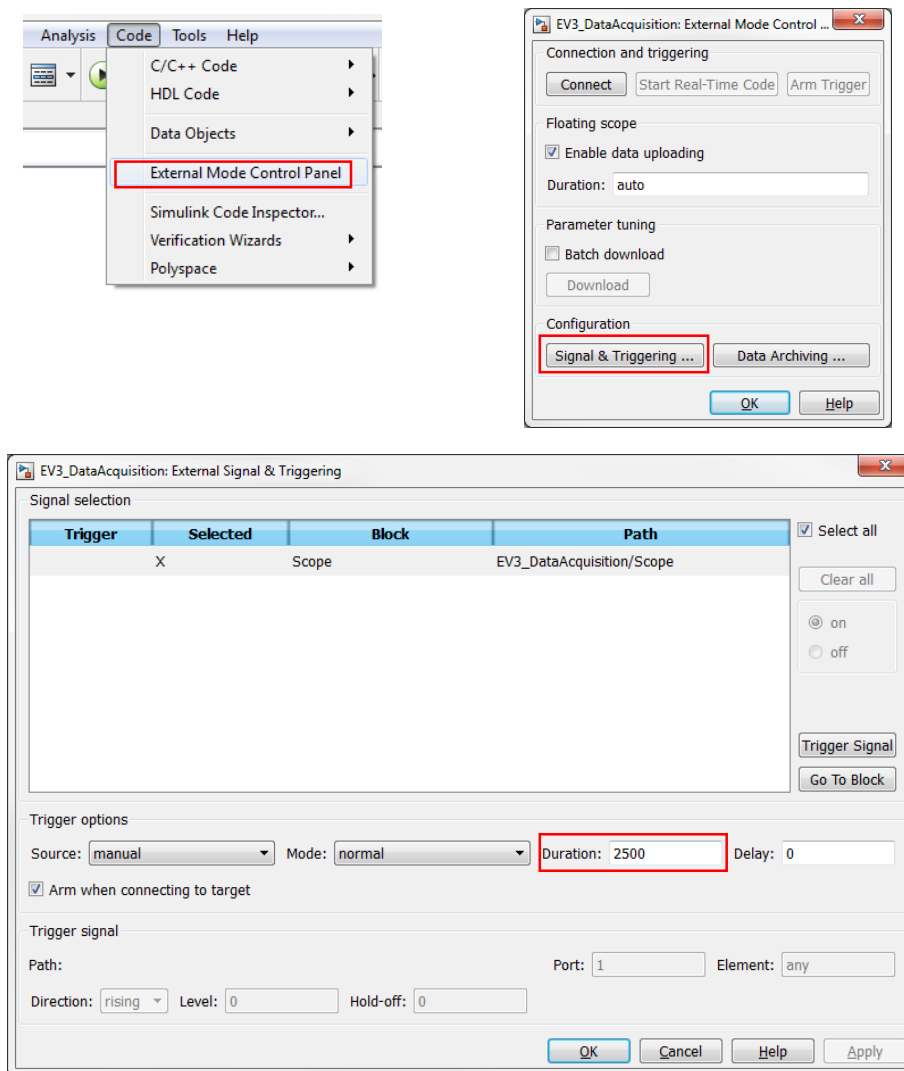
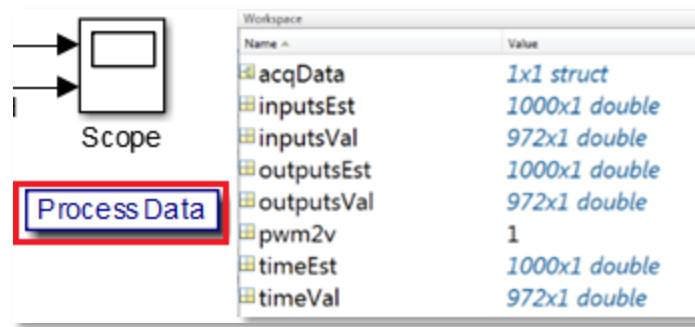

Figure 36 – Set up External Mode parameters
Figure 37 - Process Data, MATLAB Workspace – Acquired Data
- Once the model has finished running, click on the '**Process Data**' button (Figure 37) in the Simulink model and you will see two MATLAB figures with the acquired data that shows the estimation and validation data sets. This is also available in the MATLAB workspace as variables as shown in Figure 36.